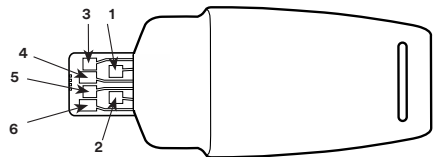

Figure 6-2: Calibration Verification Stick
- Hold the digital multi-meter leads to pads one and three (see Figure 6-2).